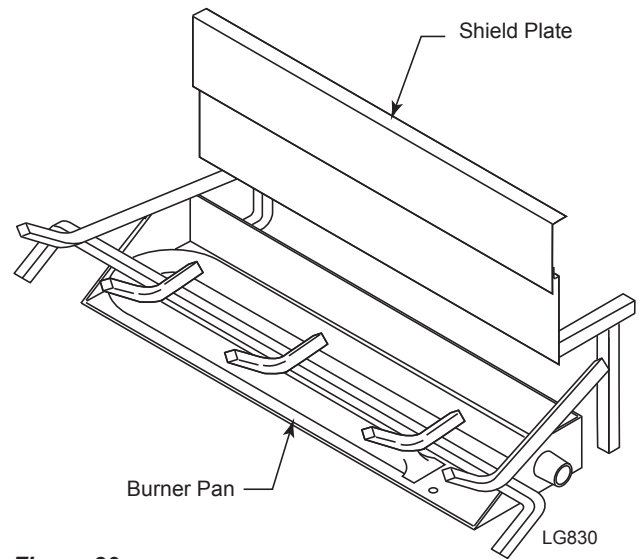

**Figure 80 -
1. Slide shield plate behind burner pan. *Figure 80*